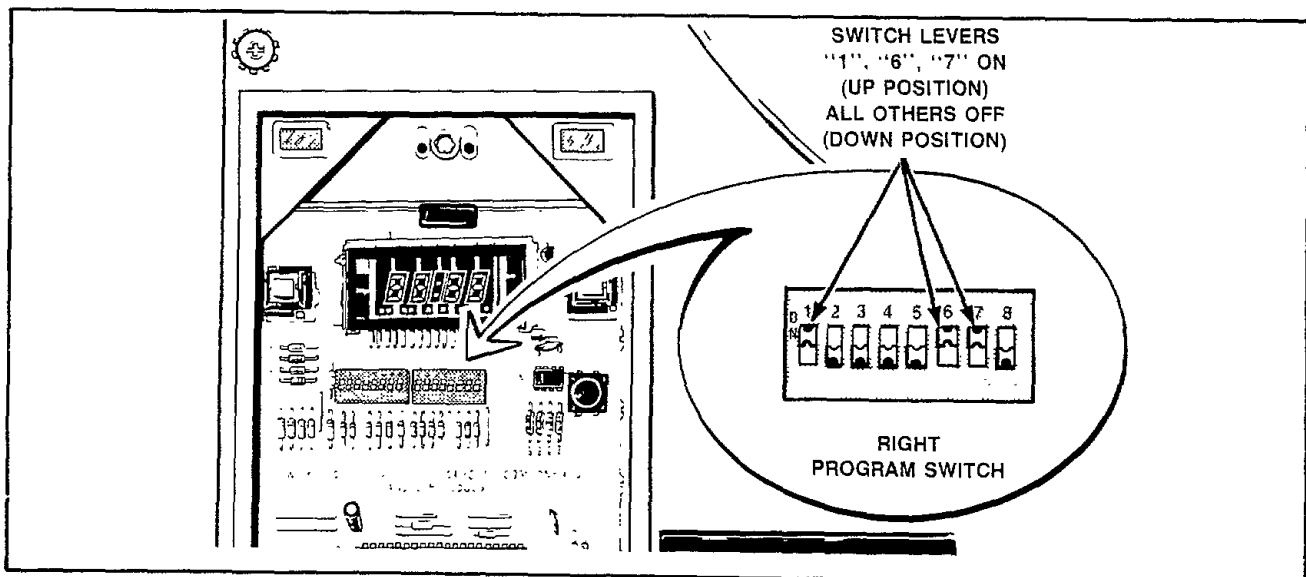

Figure 43
- Slide the right program switch number 4 down and slide right program switch number 7 up. *Figure 43.* Switches 1, 6, and 7 must be up and all other switches must be down.